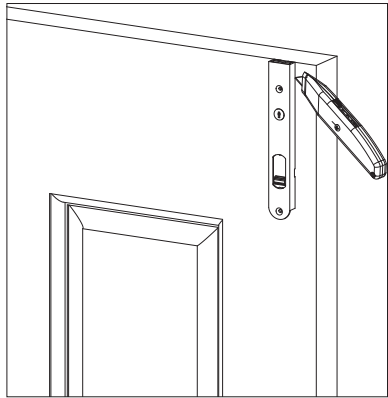

Figure 1.
2.1. Using your preferred method trace the outline of the flush bolt body in the desired mounting position on the door. (Figure 1.)